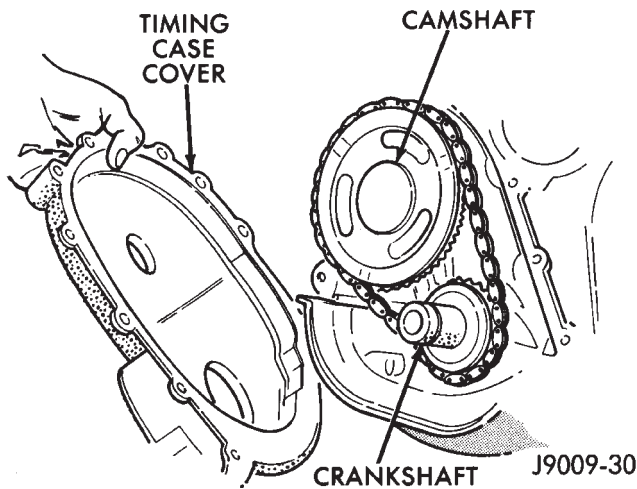

Fig. 47 Timing Case Cover
(9) Install the timing chain, crankshaft sprocket and camshaft sprocket with the timing marks aligned.
(10) Install the camshaft sprocket retaining bolt and washer. Tighten the bolt to 108 N·m (80 ft. lbs.) torque.
(11) Install the timing case cover with a replacement oil seal (Fig. 47). Refer to Timing Case Cover Installation.
(12) Install the vibration damper.